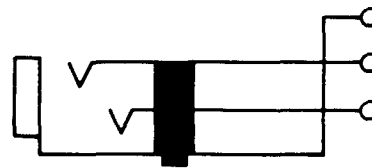

Fig. 6—581-Type Jack
2.06 581A, C, E: These single-mounted jacks (Fig. 6) are miniature and suitable for use in equipment where space restrictions are a problem. The springs are made of nickel-silver and are equipped with solder-type terminals. These jacks mate with the 310 and similar-type plugs. These jacks are used in Portable-Transmission Measuring Sets. The 581E jack contains a different frame assembly which is arranged for panel mounting by means of a flat hex and knurled flange nut with two washers.